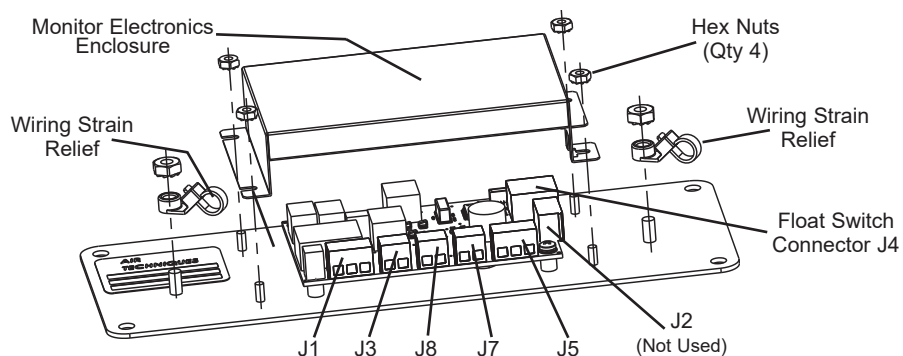

Figure 15. **Acadia Alert** Monitor Panel Electronics Enclosure
1. Refer to Figure 15 and access the connectors on the rear of the panel by removing the 4 nuts securing the **Acadia Alert** monitor electronics enclosure to the panel.
2. Connect the module as shown by the view of Figure 16 corresponding to your particular installation requirements. Make sure that the connected wires are positioned and held by the strain relief as shown by Figure 15.
2. Gather connected wires together in a loose "S" and secure with the strain relief. See Figure 15.